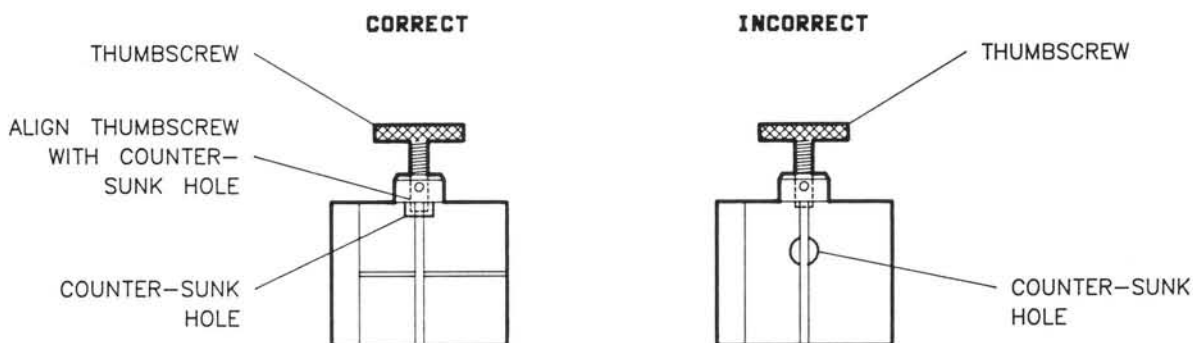

Figure 3. Aligning the Thumbscrew With the Counter-bored Hole
- See Figure 3. Make sure that the thumbscrew is aligned with the counter-sunk hole in the clamp body. Push the clamp toward the test set front panel and then tighten the thumbscrew with your fingers. The cable cannot be damaged by tightening the thumbscrew too tightly.